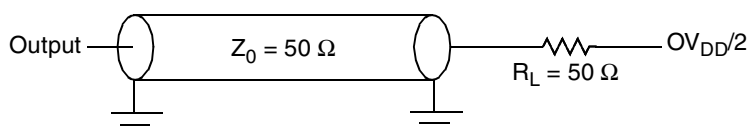

Figure 14. Local Bus C Test Load
Figure 14 provides the AC test load for the local bus.
1. All outputs are measured from the midpoint voltage of the falling/rising edge of t_{TCLK} to the midpoint of the signal in question. The output timings are measured at the pins. All output timings assume a purely resistive 50-Ω load (see Figure 14). Time-of-flight delays must be added for trace lengths, vias, and connectors in the system.
2. The symbols used for timing specifications follow the pattern of $t_{(first\ two\ letters\ of\ functional\ block)(signal)(state)(reference)(state)}$ for inputs and $t_{(first\ two\ letters\ of\ functional\ block)(reference)(state)(signal)(state)}$ for outputs. For example, t_{JTDVXH} symbolizes JTAG device timing (JT) with respect to the time data input signals (D) reaching the valid state (V) relative to the t_{JTG} clock reference (K) going to the high (H) state or setup time. Also, t_{JTDVXH} symbolizes JTAG timing (JT) with respect to the time data input signals (D) went invalid (X) relative to the t_{JTG} clock reference (K) going to the high (H) state. Note that, in general, the clock reference symbol representation is based on three letters representing the clock of a particular functional. For rise and fall times, the latter convention is used with the appropriate letter: R (rise) or F (fall).